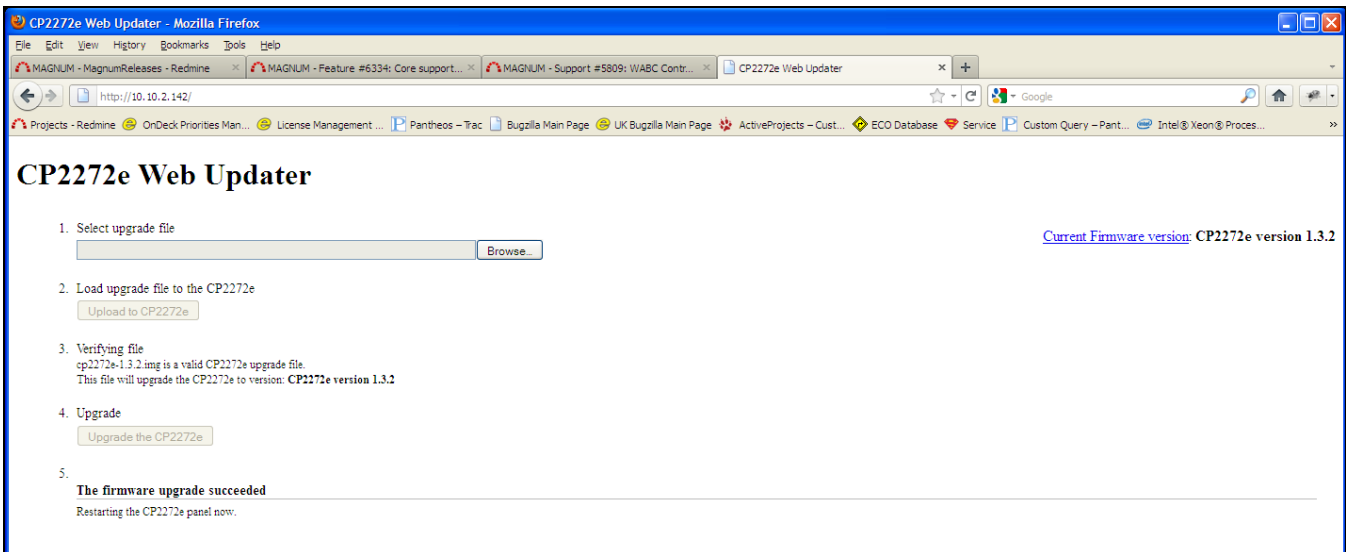

Figure 5-5: Successful Firmware Upgrade
5. Once the panel has been upgraded a message will be displayed to inform the user of a successful upgrade, as shown in Figure 5-5.